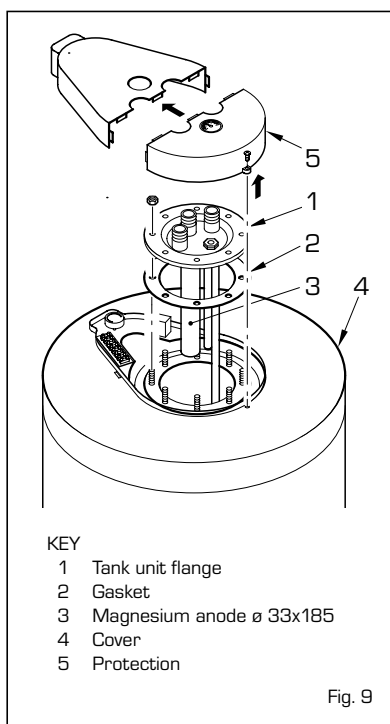

Fig. 9
The tank unit comes with a protection magnesium anode (fig. 9). This non-rust anode in normal operating conditions has life span of 5 years. It is, however, advisable to check the erosion annually and replace it if worn. To disassemble the tank unit flange (1), remove the cover (5) and unscrew the two nuts that fix the upper cover (4). Then lift the upper cover (4) which is simply inserted with pressure.